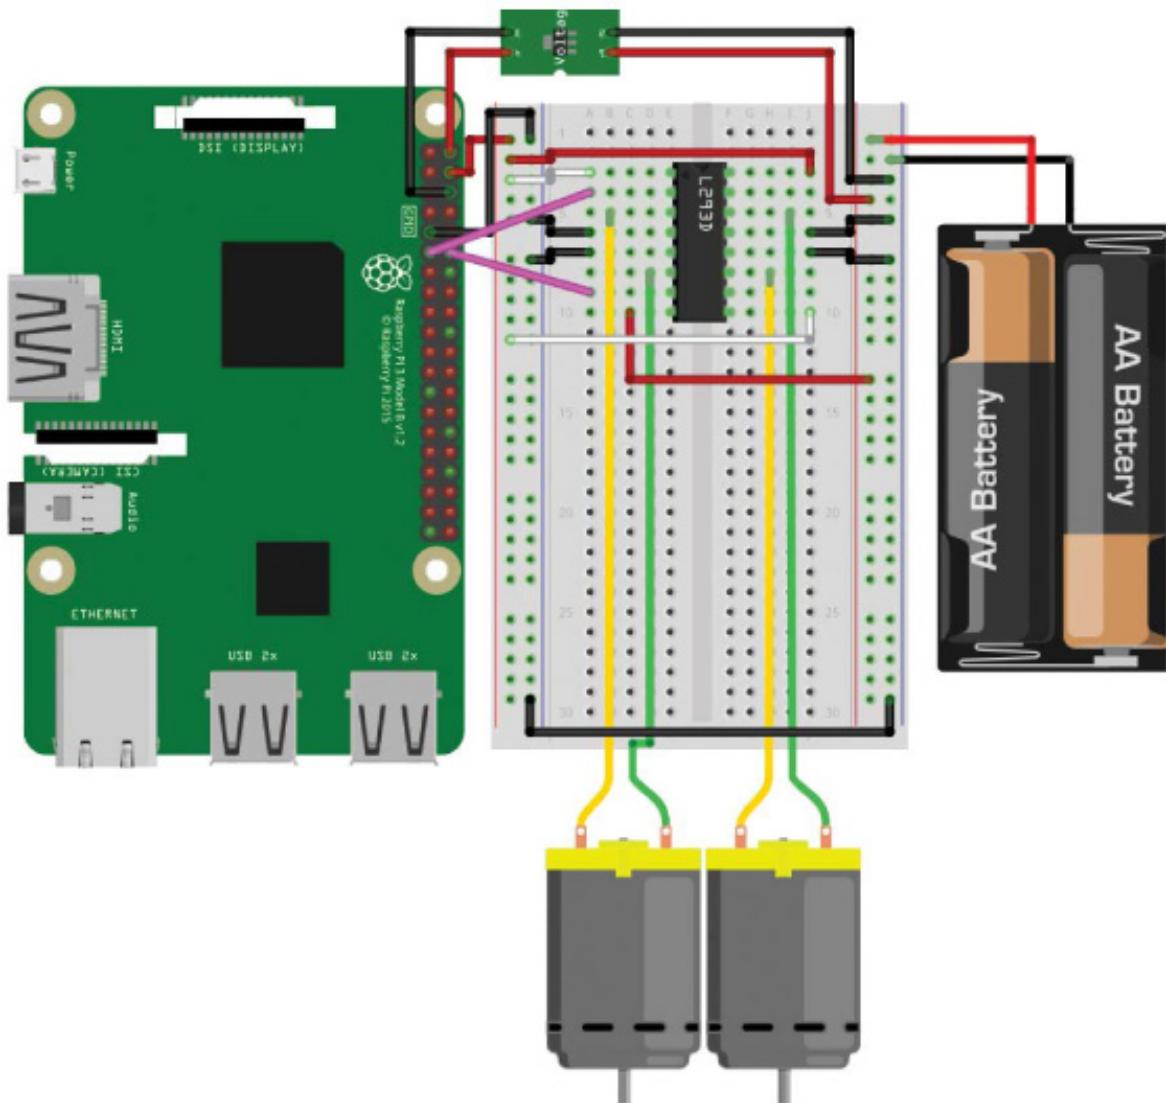

FIGURE 3-28 First motor's input control pins wired from the Pi to the L293D
9. Use a M-F jumper wire to connect your Pi's physical pin 11 (BCM 17) to pin 2 (Input 1) on your L293D. Then use another jumper wire to connect your Pi's physical pin 12 (BCM 18) to pin 7 (Input 2) on your L293D. You have now successfully wired up one motor. At this stage, your breadboard should look like Figure 3-28, with the most recent additions being the pink wires.